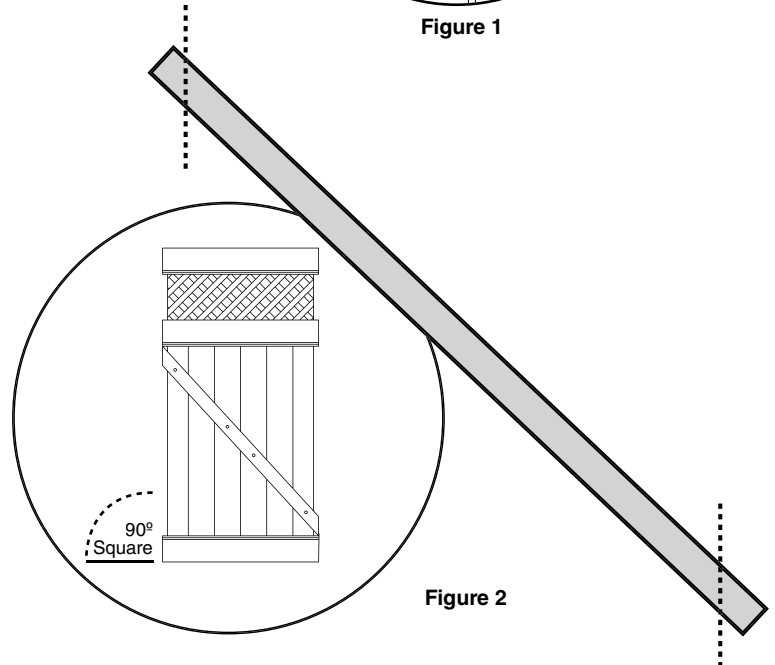

Figure 2
- 8.) Lay the gate brace from one corner of infill to the other as shown in *Figure 2*.
- 9.) Mark the ends and cut the gate brace as shown in *Figure 2*.